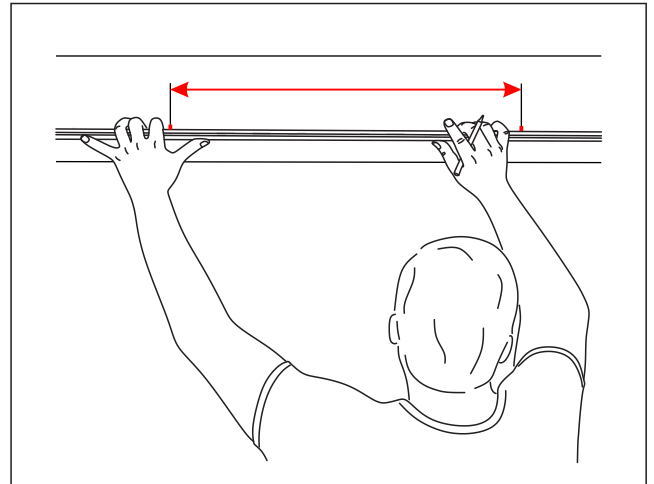

Fig. 1
3. Use the marked profile to find and note the location of the cable attachment points on the opposing wall. Make sure that all points are both at the same level and parallel (Fig.1).